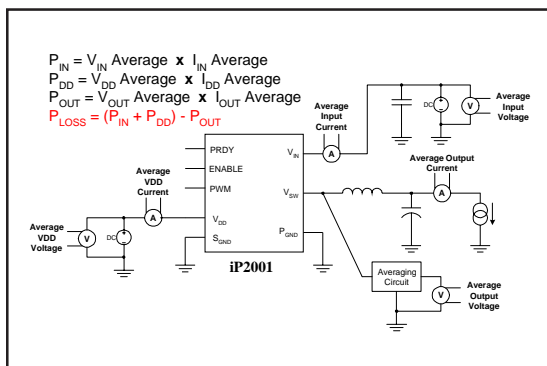

Fig 8. Power Loss Test Circuit
① Measurement were made using four 10uF (TDK C3225X7R1C106M or equiv.) capacitors across the input (see Fig. 8).